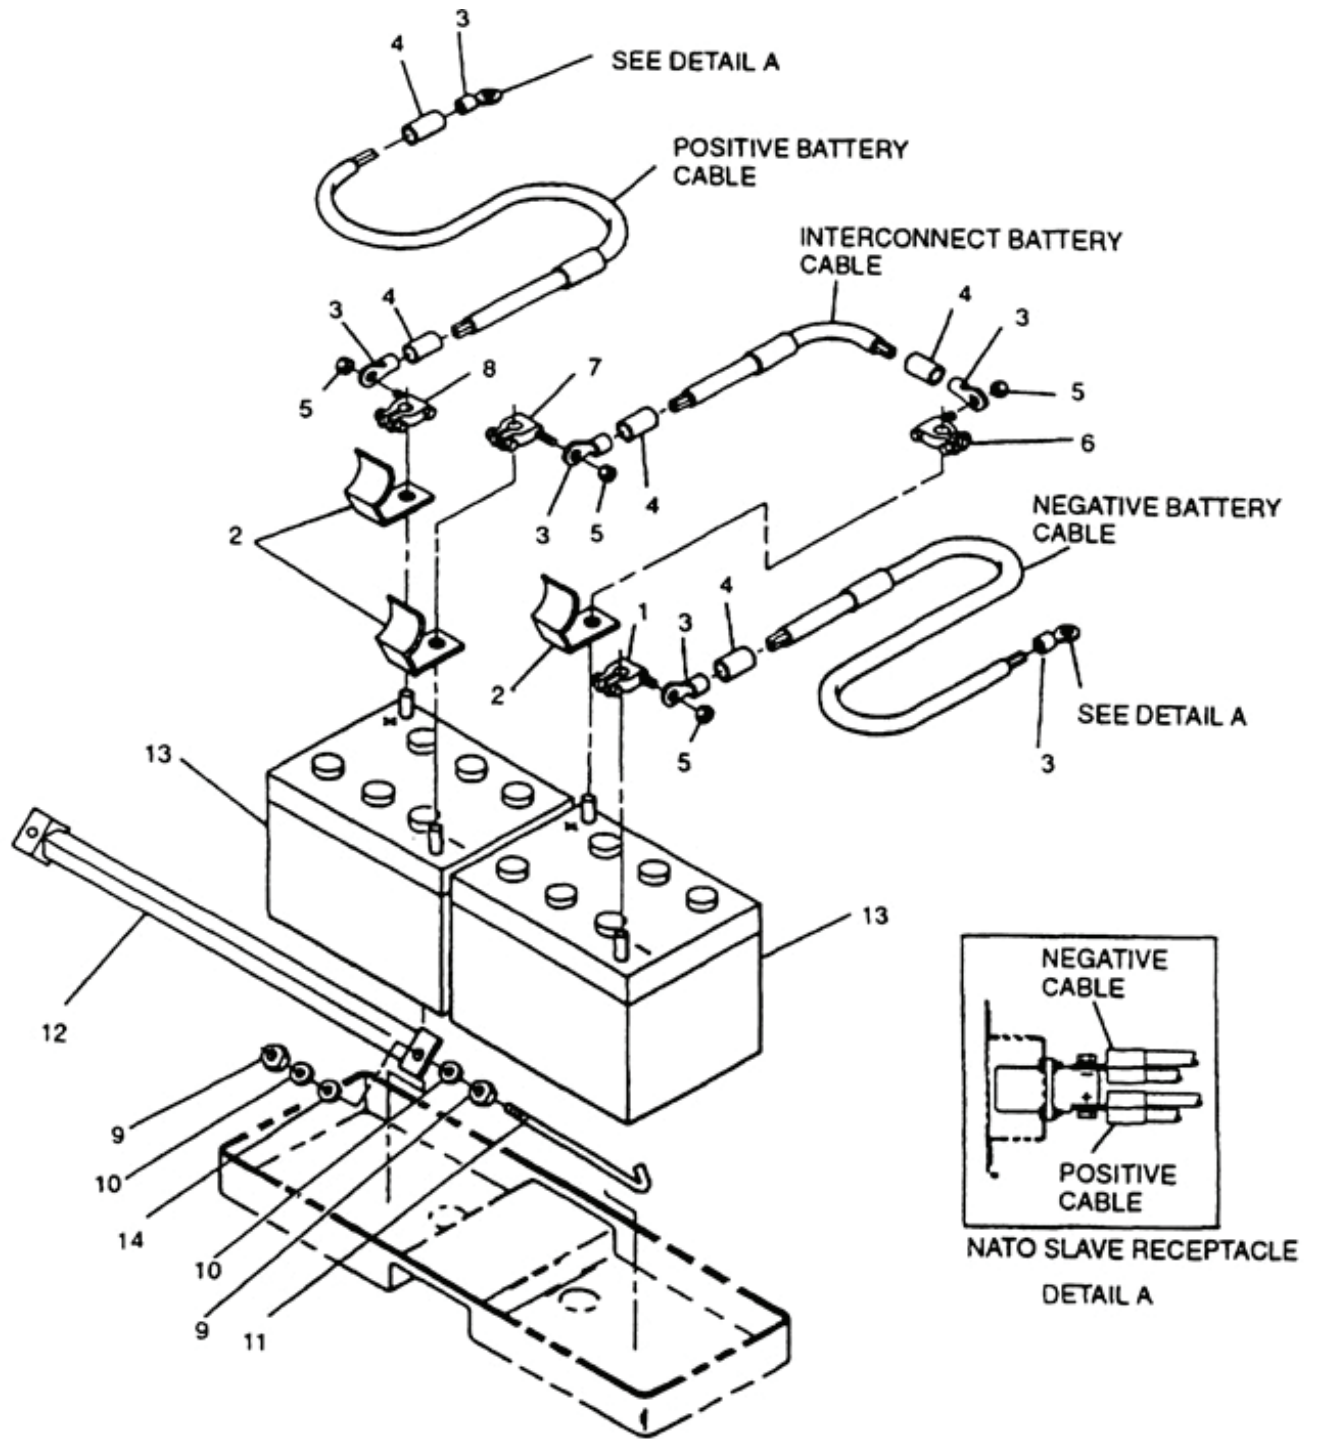

Figure 2-3. Batteries and Cables.
- c. Disconnect negative battery cable terminal lug (1, Figure 2-3) from battery.
- d. Disconnect and remove applicable cable assembly (Figure 2-3/Figure 2-4).
- a. Remove terminal cover(s) (2, Figure 2-3) from battery post(s), if applicable.
- c. Install terminal cover(s) (2), if removed.
- a. Remove nut(s) (5, Figure 2-3) and battery cable terminal lug(s), as necessary.
- b. Remove broken or damaged terminal (3, Figure 2-3/3, Figure 2-4) from cable assembly.
- c. Slide new shrinkable tubing (4, Figure 2-3/4, Figure 2-4) over cable end.
- d. Install terminal (3) to cable end (Appendix D).
- e. Heat shrinkable tubing (4) with heat gun until secure.
- f. Install battery cable terminal lug(s) with nuts(s) (5, Figure 2-3), as necessary.
- g. Connect negative battery cable terminal lug (1, Figure 2-3) to battery. Close battery access door.
- b. Open battery compartment access door and disconnect negative battery cable terminal lug (1, Figure 2-3).
- c. Disconnect interconnect battery cable terminals (6 and 7) and remove interconnect battery cable assembly. Disconnect positive battery cable terminal lug (8).
- d. Remove nuts (9), washers (10), lock washers (14), hook bolts (11), and battery hold-down (12). Discard lockwashers (14).
- e. Remove batteries (13).
- a. Remove terminal covers (2, Figure 2-3).
- c. Install terminal covers (2) on batteries (13).
- a. Position batteries (13, Figure 2-3) in generator set. Ensure that batteries are serviced and fully charged.
- c. Install hook bolts (11) and battery hold-down (12) with new lock washers (14), washers (10), and nuts (9).